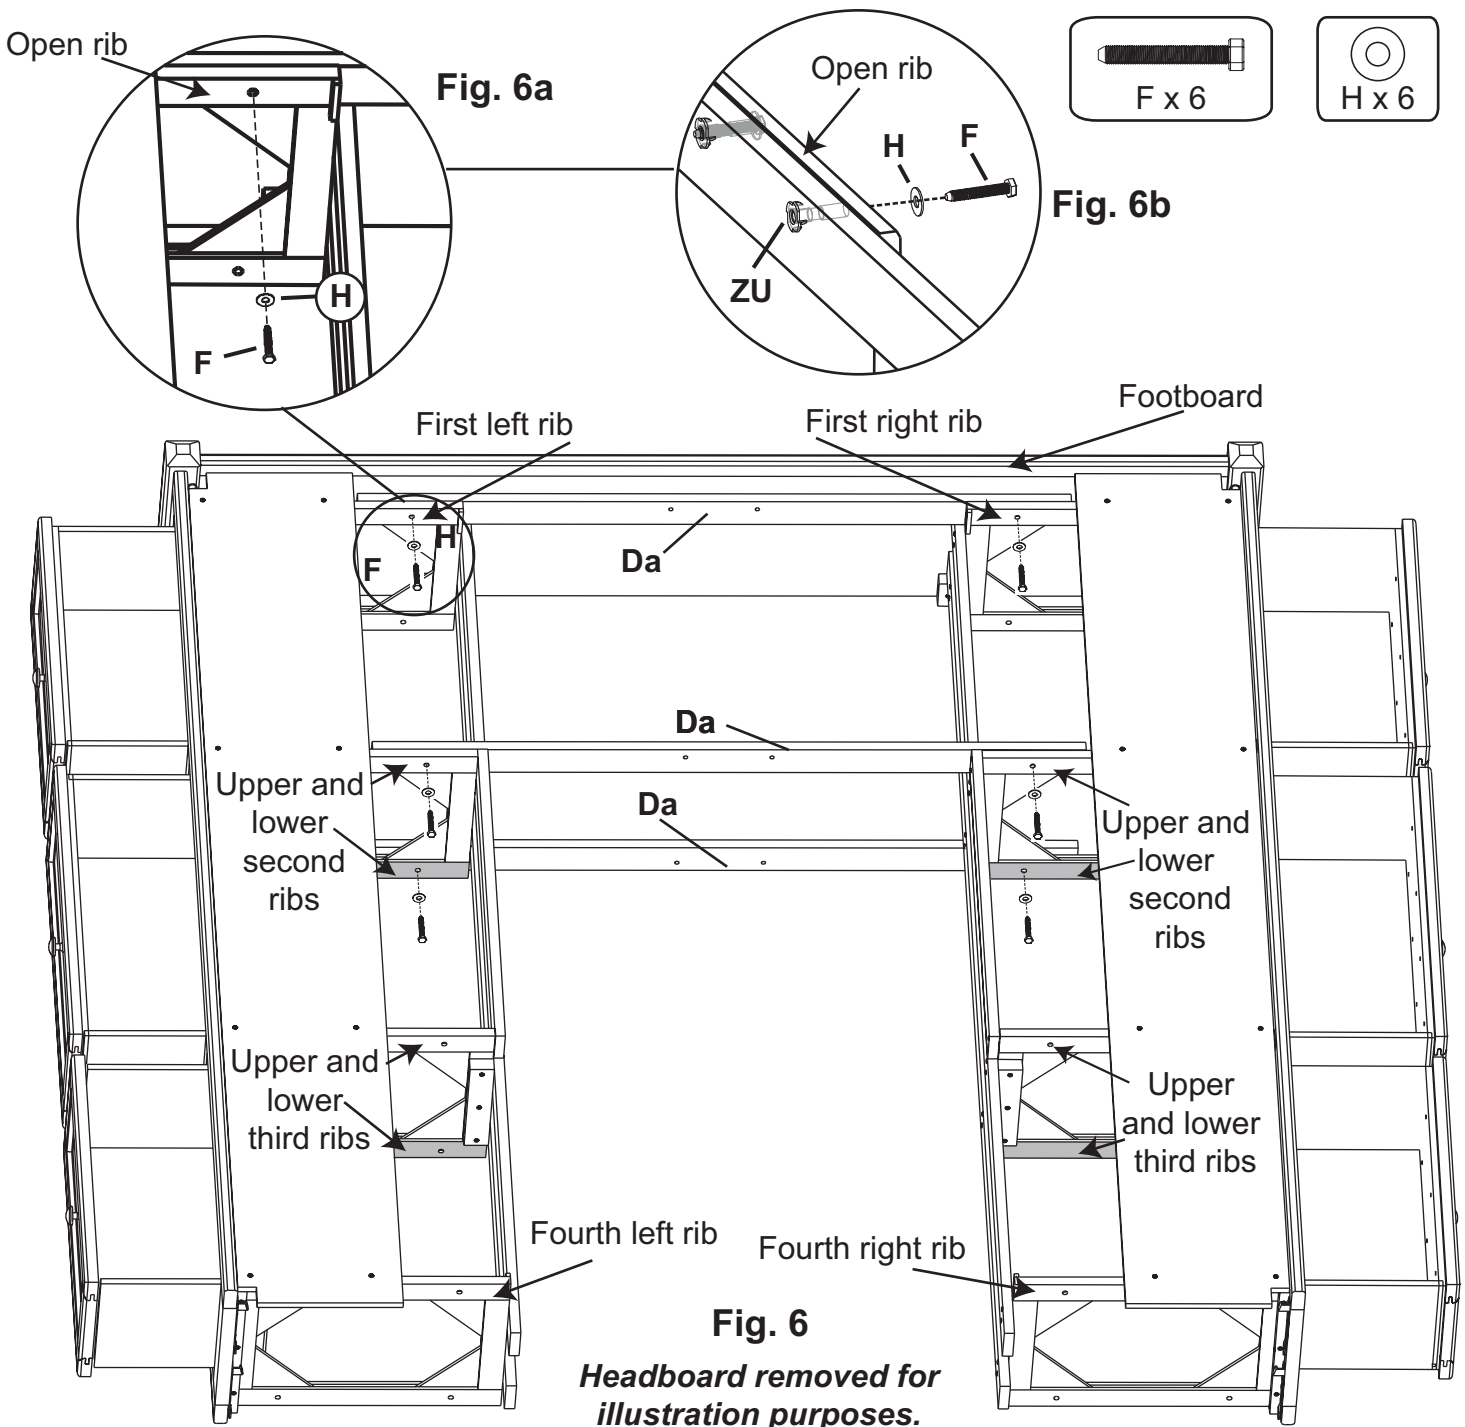

Fig. 6
Place a Trestle with T-Nuts (Da) on the outside surface of the second **lower** rib so that the T-Nuts (ZU) sit near the bottom. Line up the bottom edges of the trestle and ribs so they are nearly flush. Insert two 1/4" x 1-3/4" Hex Bolts (F) and Washers (H) and and tighten. See Figures 6, 6a and 6b.
Place a Trestle with T-Nuts (Da) on the outside surface of the second **lower** brace so that the T-Nuts (ZU) sit near the bottom. Line up the bottom edges of the trestle and braces so they are nearly flush. Insert two 1/4" x 1-3/4" Hex Bolts (F) and Washers (H) and and tighten. See Figures 6, 6a and 6b.